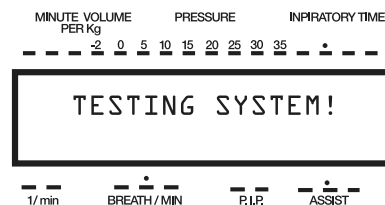

Fig.1
4. While still holding your thumb over the sampling elbow, place the Power switch into the "I" or "On" position. The A.D.S. 1000 will now perform a self-test. This will be indicated by the LCD display as shown in Figure 1. Continue to hold your thumb over the end of the sampling elbow until this test is complete.